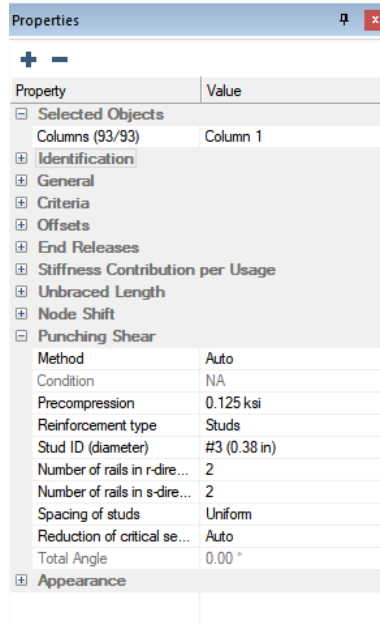

FIGURE 9-113
- Navigate to the *Properties* Grid. Click the + sign to expand the tree for the *Punching Shear* options as shown in **FIGURE 9-113**.